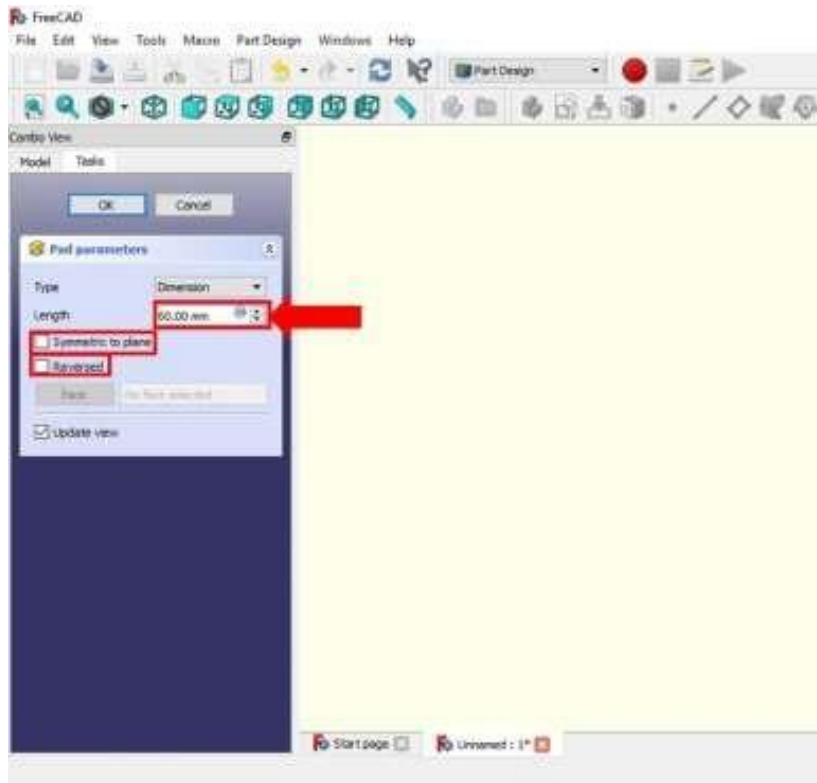

Figure 20 – Working with the **Reversed** option
2. Set the length to **60 mm** in the **Dimension** tab and uncheck **Symmetric to plane** and **Reversed**. The length will determine how far your object is extruded. The **Reversed** option will stretch the sketch in the opposite direction (Figure 20).